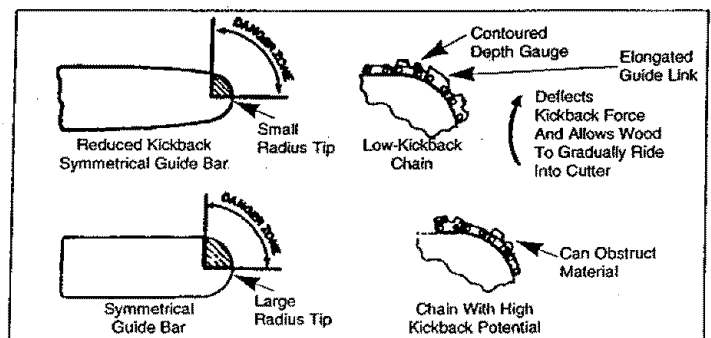

Figure 5
- **Reduced-Kickback Guide Bar**, designed with a small radius tip which reduces the size of the kickback danger zone on the guide bar tip. Figure 5. A Reduced-Kickback Guide Bar is one which has been demonstrated to significantly reduce the number and seriousness of kickbacks when tested in accordance with ANSI B175.1-1991.
- **Low-Kickback Chain**, designed with a contoured depth gauge and guard link which deflect kickback force and allow wood to gradually ride into the cutter. Figure 5. Low-Kickback Chain is chain which has met kickback performance requirements of ANSI B175.1-1991 when tested on a representative sample of chain saws below 3.8 cubic inch displacement specified in ANSI B175.1-1991.